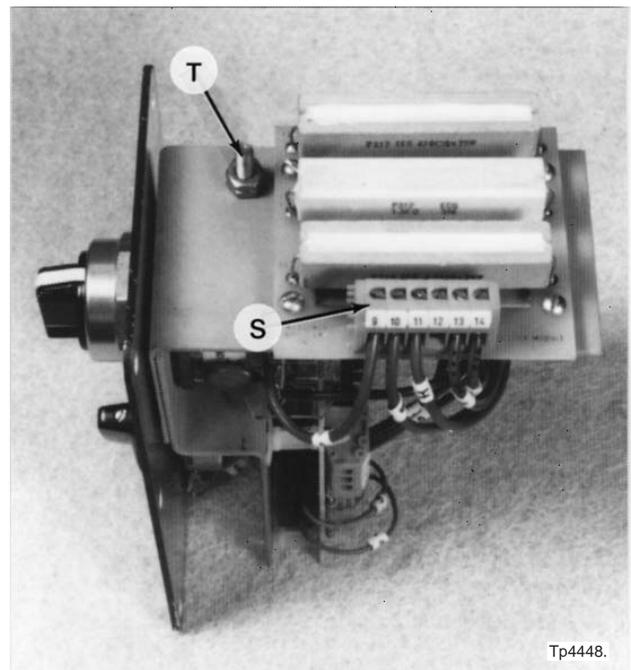

Figure 3.42 - Power Feed Module (Top View)
7. Record the connection; then disconnect wire F2 from terminal block “S”, Figure 3.42 .
14. Connect the power feed motor ground wire (green) to ground stud "T", Figure 3.42 .